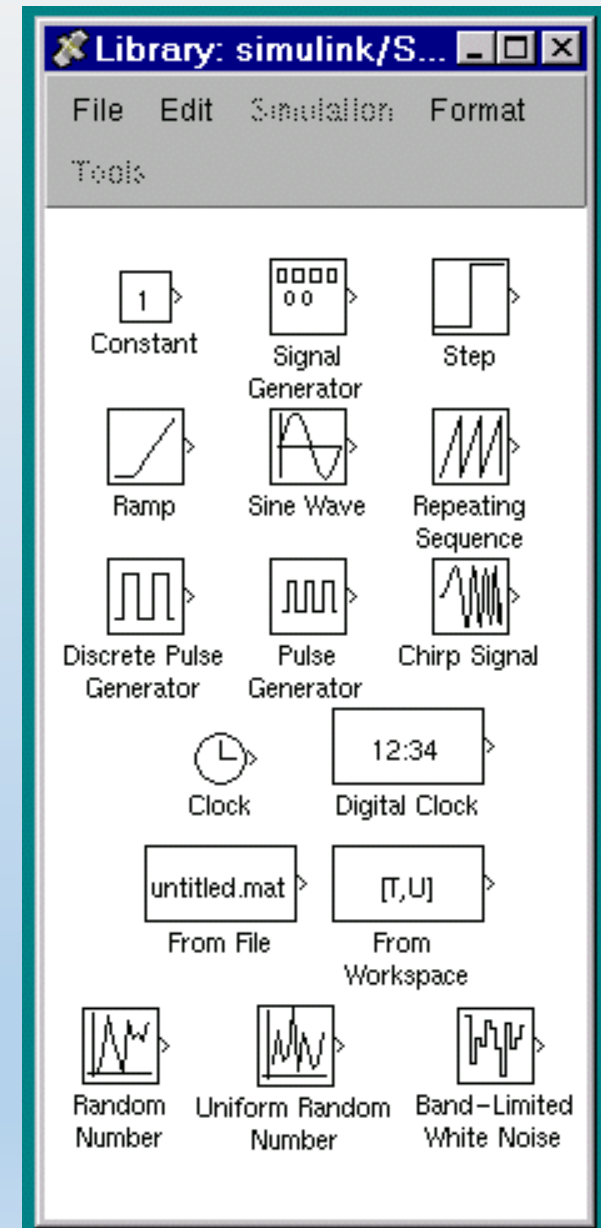

Fig. 5
- **Step 2:** Double click on the Sources icon in the SIMULINK block library, opening the Sources block library, as shown in Fig. 5.